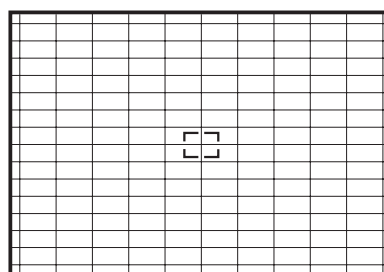

Fig.1
- (1) Press the [MENU] key, and select the "CONVERGENCE" in the INITIAL SETUP menu with [function up/down] key.
- (2) Press the [function left/right] key, the CONVERGENCE menu appears.
- (3) Press the [function up/down] key, and select the "MANUAL".
- (4) Press the [function left/right] key, then CONVERGENCE adjustment screen appear. [Fig.1]